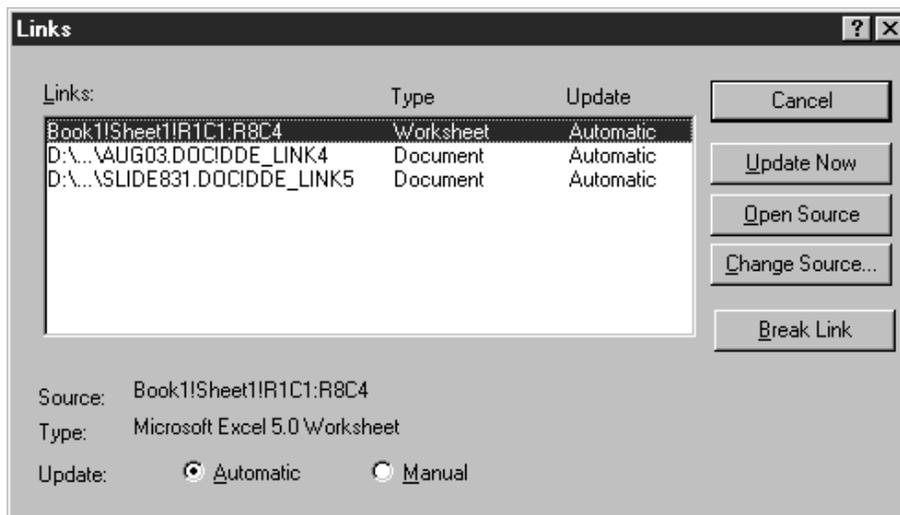

Figure 20.5 Links Dialog
1. Select Edit ⇒ Links. The Links dialog (see Figure 20.5) lists all links to the current report and identifies the object type and update setting for each.